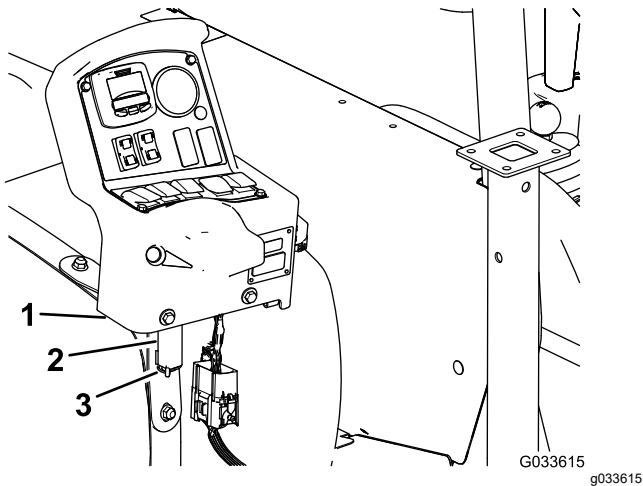

Figure 98
7. Remove the console from the console-mounting bracket at the dash of the machine and align the pivot pin on the control console with the storage bracket at the front tank strap (Figure 98); refer to Installing the Control Console to the Machine \(page 18\).
8. Assemble the console to the bracket and secure the pivot pin to the bracket with the hairpin (Figure 98).